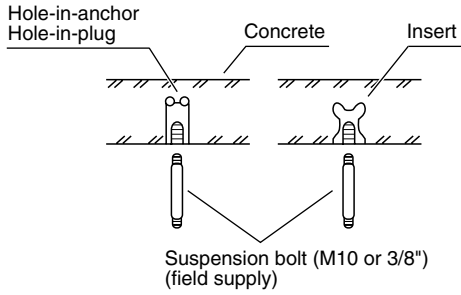

Fig. 3-58
- Insert suspension bolts (Fig. 3-58) or
- (2) Screw in the suspension bolts allowing them to protrude from the ceiling (Fig. 3-58). (Cut the ceiling material, if necessary.)